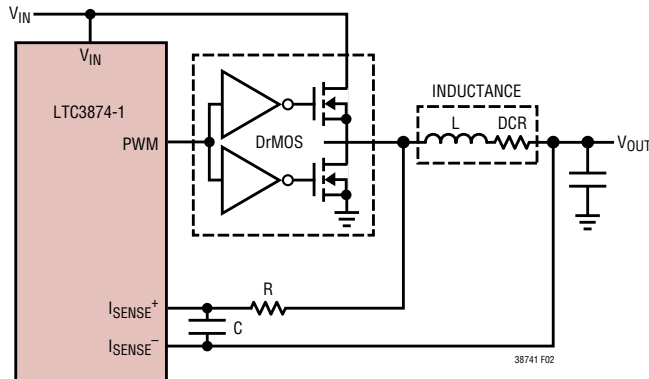

Figure 2 Inductor DCR Current Sensing
I_{SENSE}^+ and I_{SENSE}^- are the inputs to the current comparators. When the LOWDCR pin is high, their common mode input voltage range is 0V to 3.5V. I_{SENSE}^- should be connected directly to V_{OUT} of the master controller. I_{SENSE}^+ is connected to an R • C filter with time constant one-fifth of L/DCR of the output inductor. Care must be taken not to float these pins during normal operation. Filter components, especially capacitors, must be placed close to the LTC3874-1, and the sense lines should run close together to a Kelvin connection underneath the current sense element. The LTC3874-1 is designed to be used with a sub-milliohm DCR value; without proper care, parasitic resistance, capacitance and inductance will degrade the current sense signal integrity, making the programmed current limit unpredictable. In Figure 2, resistor R must be placed close to the output inductor and capacitor C close to the IC pins to prevent noise coupling to the sense signal.
The LTC3874-1 is specifically designed for high load current applications requiring the highest possible efficiency; it is capable of sensing the signal of an inductor DCR in the sub-milliohm range (Figure 2). The DCR is the DC winding resistance of the inductor's copper, which is often less than 1mΩ for high current inductors. In high current and low output voltage applications, conduction loss of a high DCR or a sense resistor will cause a significant reduction in power efficiency. For a specific output requirement, choose the inductor with the DCR that satisfies the maximum desirable sense voltage, and use the relationship of the sense pin filters to output inductor characteristics as depicted below.
4. Keep the switching nodes (SW1, SW0), away from sensitive small-signal nodes, especially from the opposite channel's current sensing feedback pins. All of these nodes have very large and fast moving signals and therefore should be kept on the output side of the LTC3874-1 and occupy minimum PC trace area. If DCR sensing is used, place the resistor (Figure 2, "R") close to the switching node.